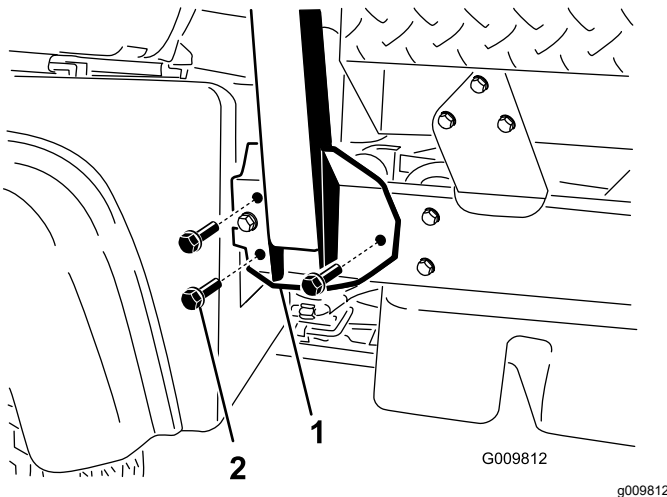

Figure 4
2. Align each side of the roll bar with the mounting holes on each side of the machine frame (Figure 4).
3. Secure the roll bar mounting bracket to the machine frame using 3 flange-head bolts (1/2 x 1-1/4 inches) on each side (Figure 4).